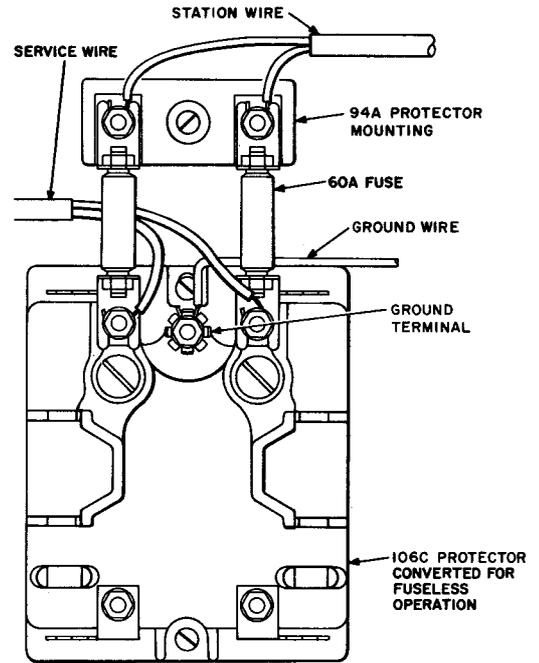

Fig. 77—60A Fuses Used With 94A Protector Mounting and Converted 106C Protector
11.10 Fig. 76 shows a fused protector equipped with 60A fuses, and Fig. 77 shows a converted protector equipped with 60A fuses.